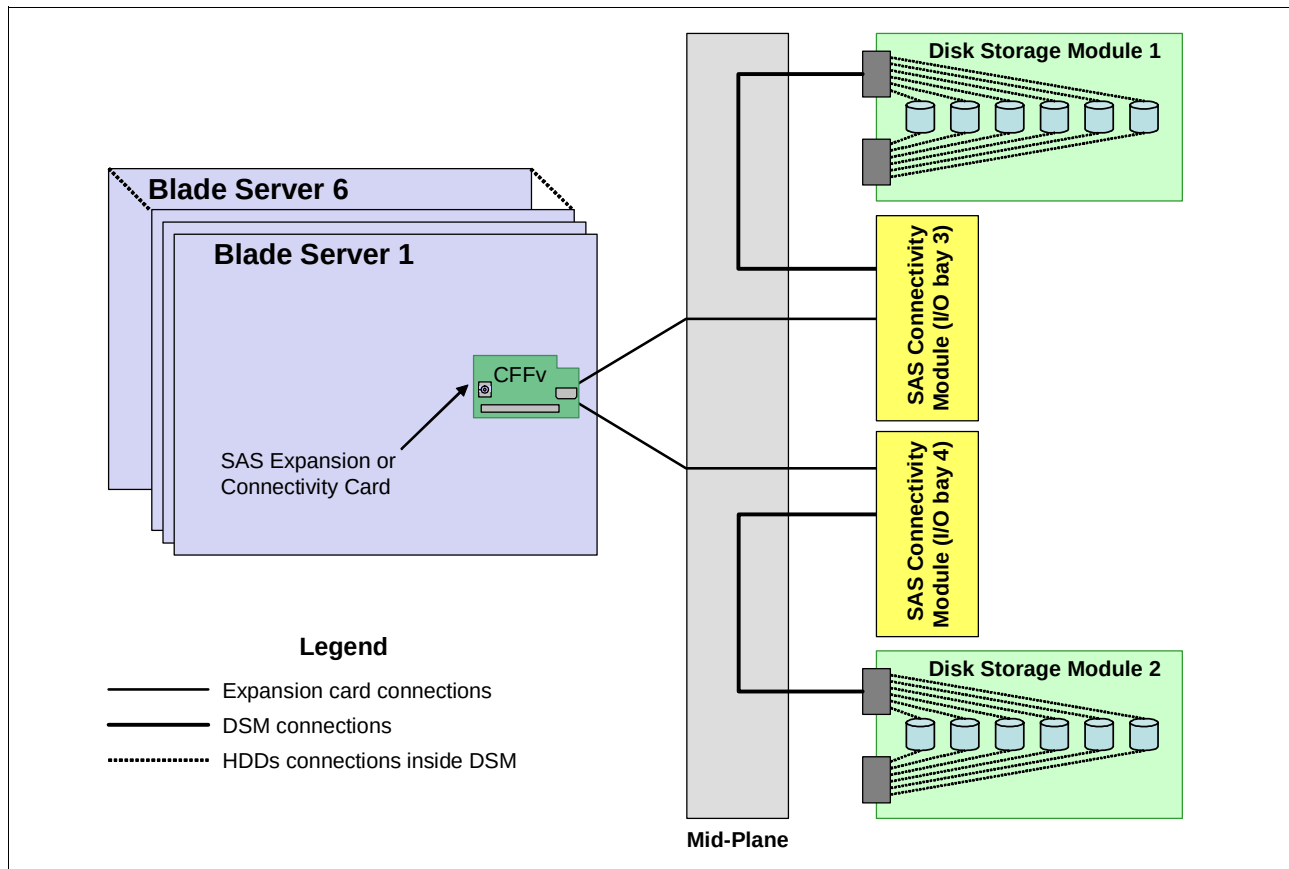

Figure 5-13 SAS I/O connections with two SAS Connectivity Modules installed
Figure 5-13 on page 425 shows a sample connection topology for basic local storage with two SAS Connectivity Modules installed.
- ▶ When creating a RAID-1 array, we recommend that you span both disk storage modules. This maximizes the availability of data if one of the paths to the disks is lost, because there is only one connection to each disk storage module, as shown in Figure 5-13 on page 425.